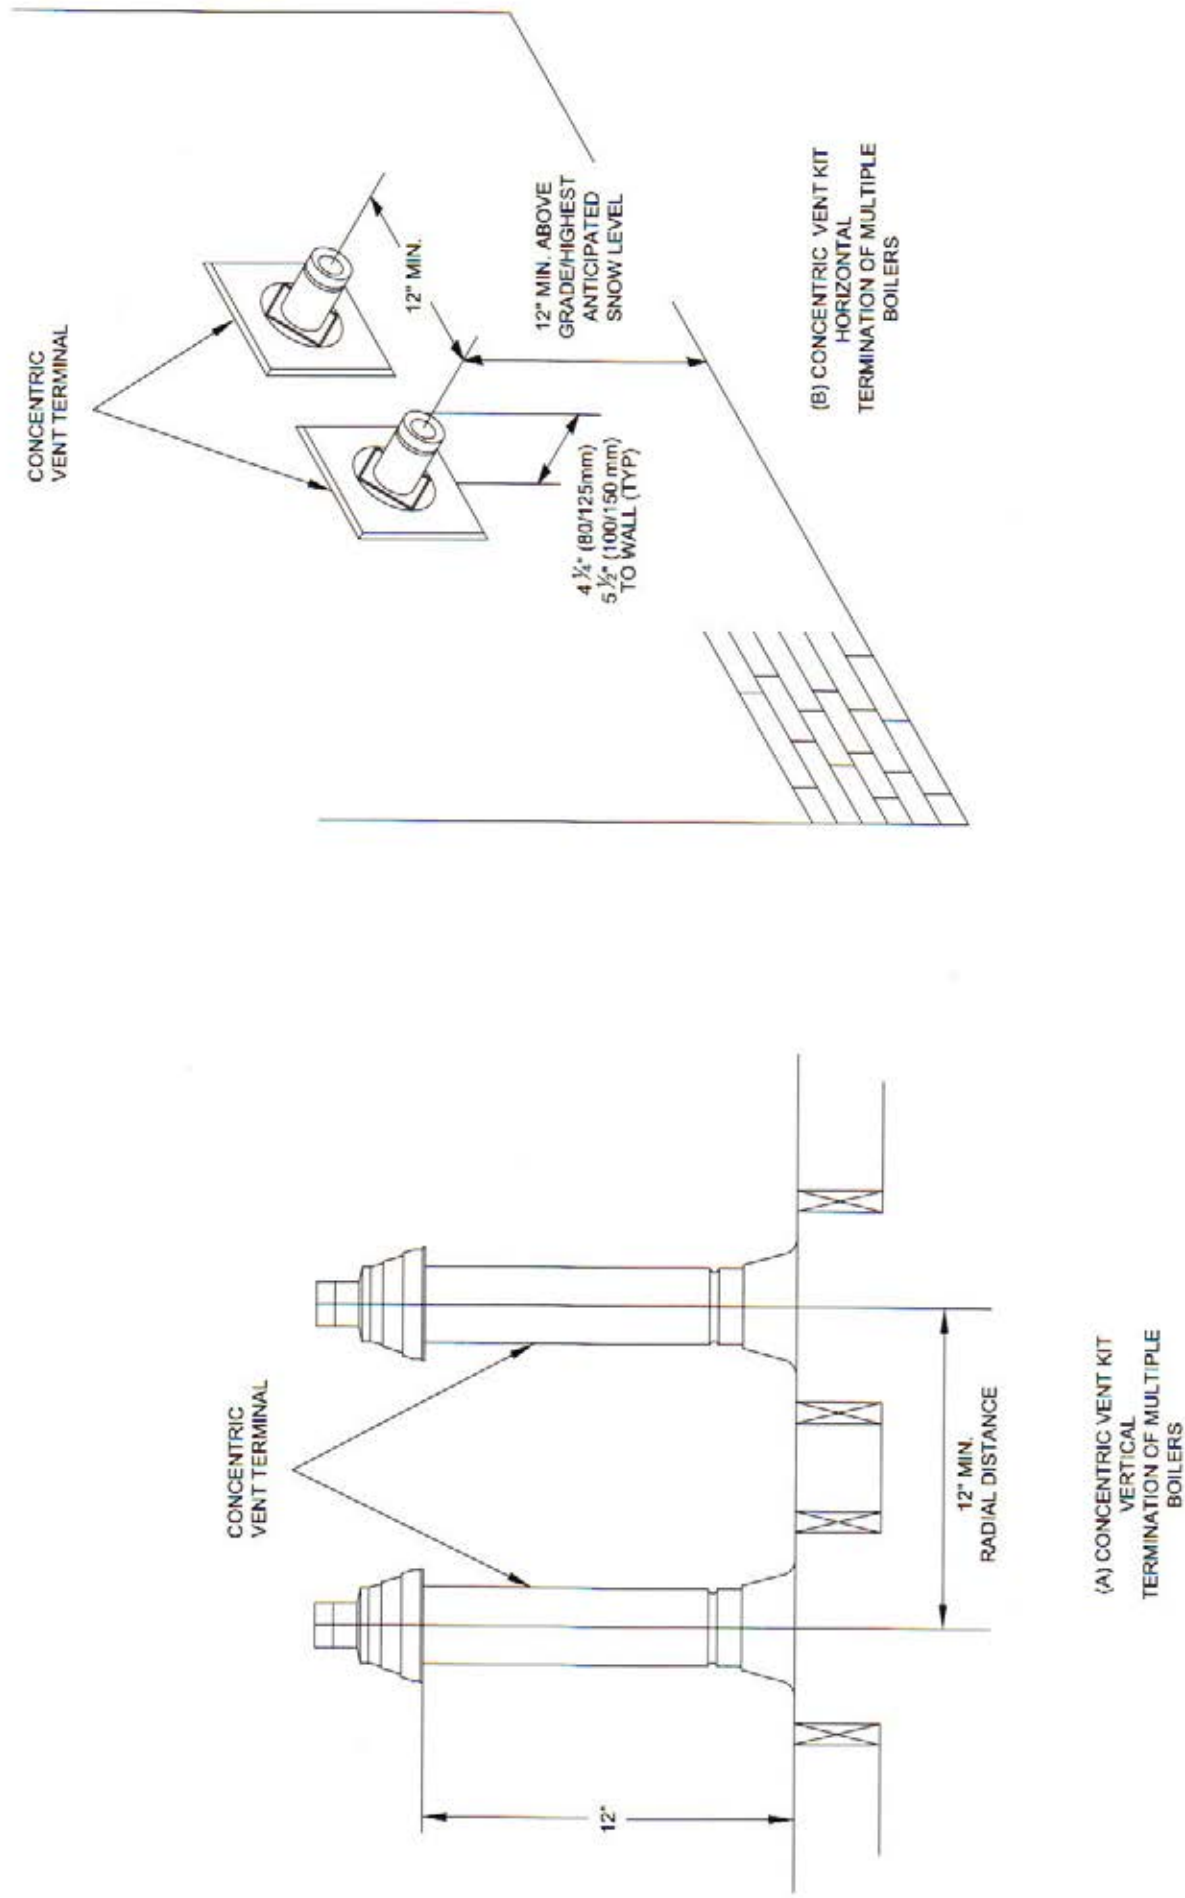

Figure 33: Multiple Boiler Concentric Vent Termination
- Concentric Combustion Venting and air intake is shown in Figure 33.